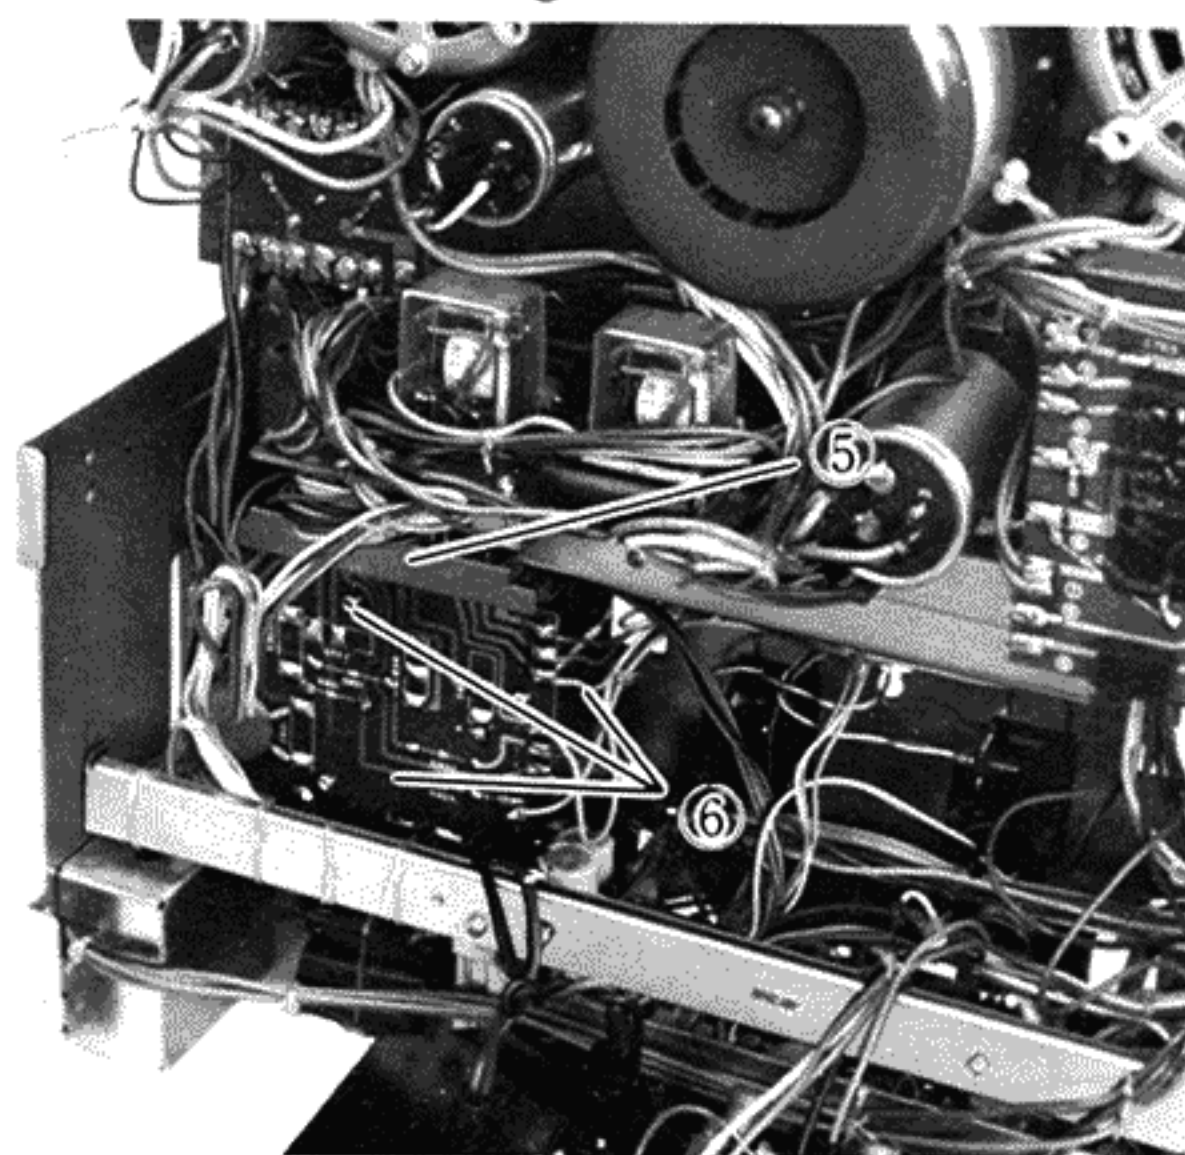

Fig. 11-5
5) Operation circuit board (Fig. 11-5)
6) Magnetic brake circuit board (Fig. 11-5)